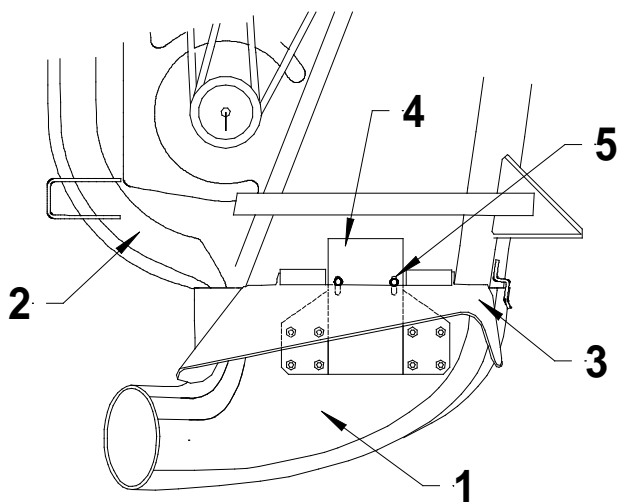

Figure 7
1. Install the boot on mower by lifting the mower grass deflector (do not remove it) and introducing the channel boot holder between the deflector and the mower deck. Release the deflector. It should lock the boot in place behind the bolt head. If the bolts are not positioned correctly to lock to boot in place, loosen the bolts, slide them to the correct position so that the guard locks the boot in place. Tighten the bolts. The boot must be touching the mower snugly (fig. 7).